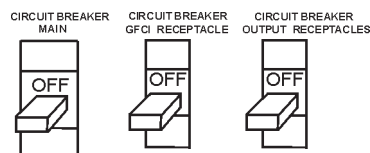

Figure 35. Main, GFCI and Load Circuit Breakers
1. Be sure to disconnect the electrical load and switch the **main**, **load** and **G.F.C.I.** circuit breakers (Figure 35) to the "OFF" position prior to starting the engine.